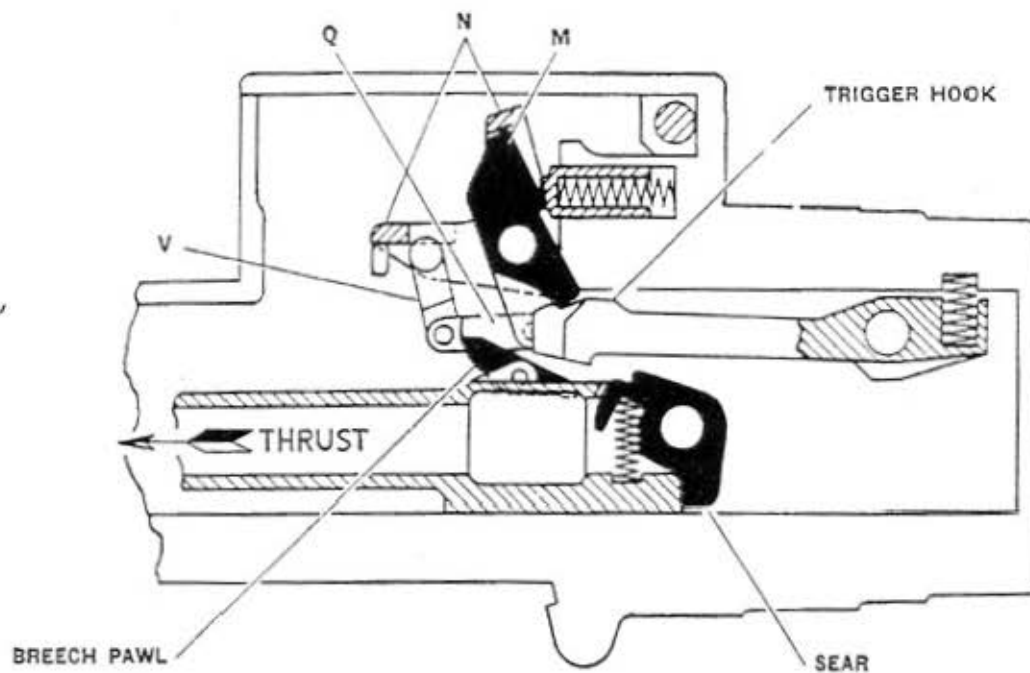
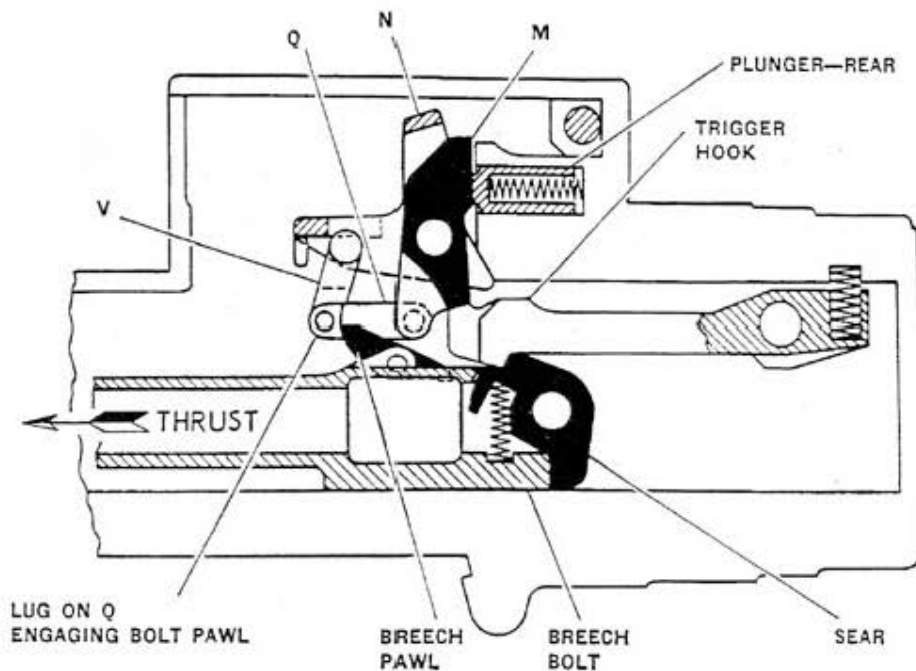

Figure 37—Interlock tripped, recoiling mass about to start counterrecoil and be held in cocked position by breech pawls engaging parallelogram bottom lever lugs
Figure 38—Recoiling mass held in a cocked position
the fork presses against a bolt that bears in turn against the claw of the trigger pawl. The movement of this bolt then trips the trigger pawl disengaging it from the trigger crank permitting the trigger crank to drop. This lowers the front end of the parallelogram into the position shown in Figure 37. This brings the lug on the parallelogram bottom levers (Q) in line with the path of travel of the breech pawls on recoil and counter-recoil. As the breech block recoils the breech pawls slide under and past the lugs on parallelogram bottom levers (Q) and on the counterrecoil engage these lugs, and lock the trigger hook as shown in Figure 38.